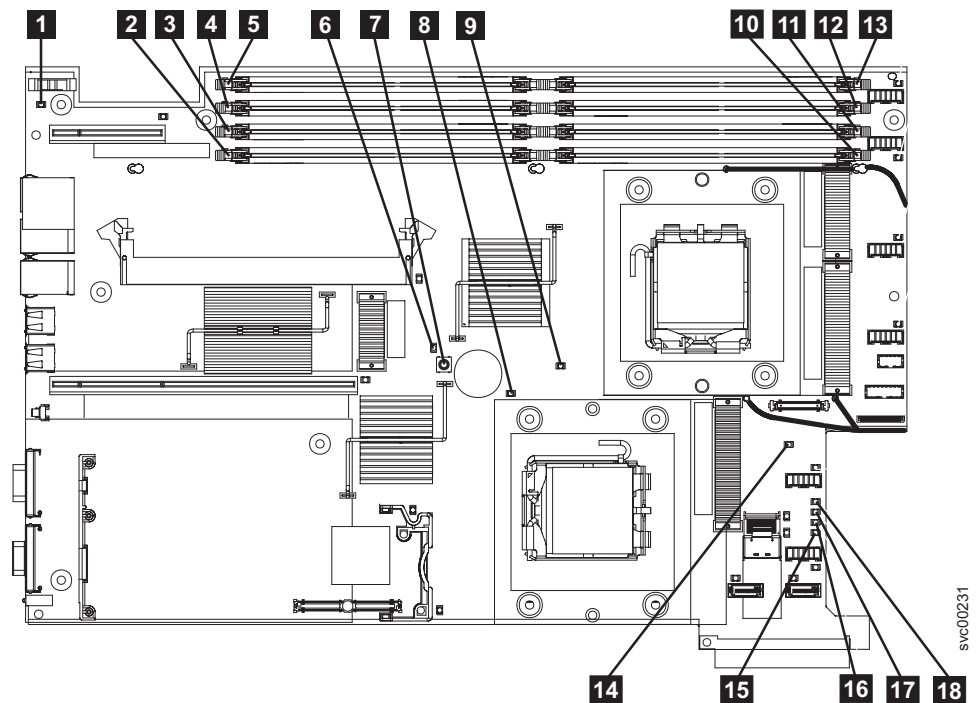

Figure 58. The SAN Volume Controller 2145-8G4 system board
YES Refer to Table 21 on page 308 and perform the action specified for the specific light path diagnostic LEDs, then go to step 3 on page 309. Some actions will require that you observe the state of LEDs on the system board. The location of the system board LEDs are shown in Figure 58. The fan LEDs are located adjacent to each FAN. To view the LEDs you will need to do the following:
- d. Press the light path diagnostic button **7**. See Figure 58.